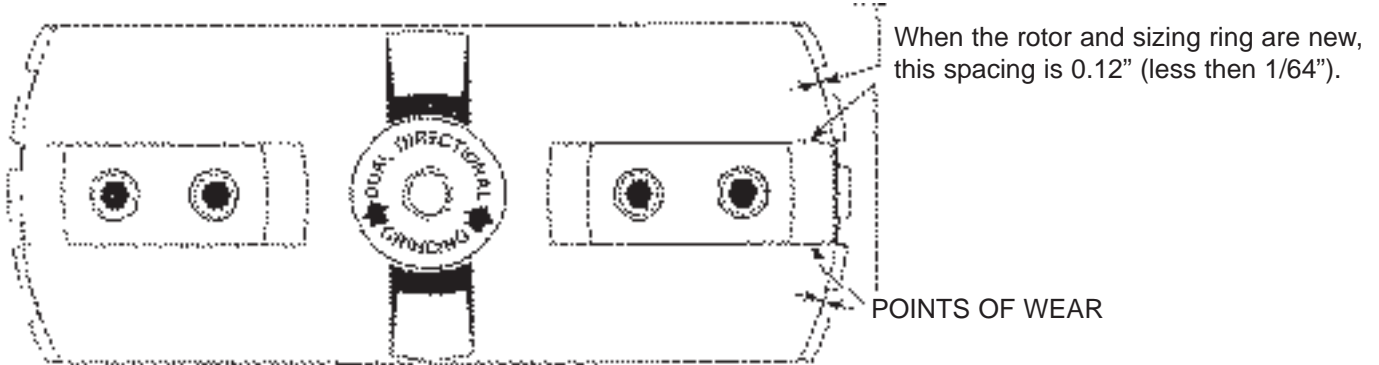
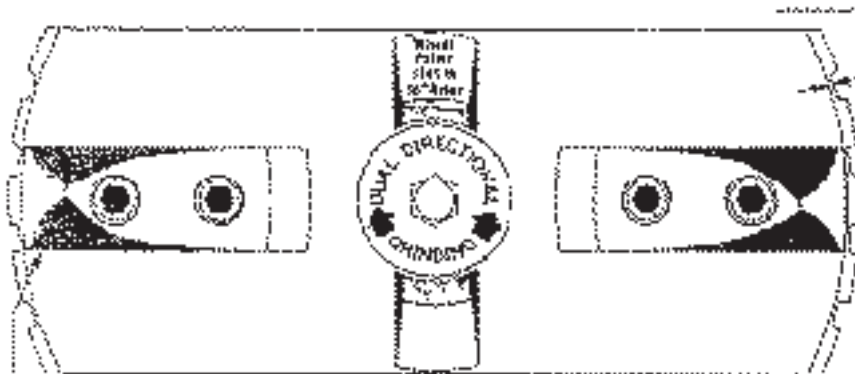

FIG. 1
FIG. 2
7. The two points of probable wear are the leading edges of the impact bars and the spacing between the outer edges of the rotor and the inner diameter of the sizing ring teeth (Figure 1, Page 13). When one end of each impact bar is worn rounded, as shown in Figure 2, Page 13, they need to be reversed (if disposer is wired to an automatic reversing control).